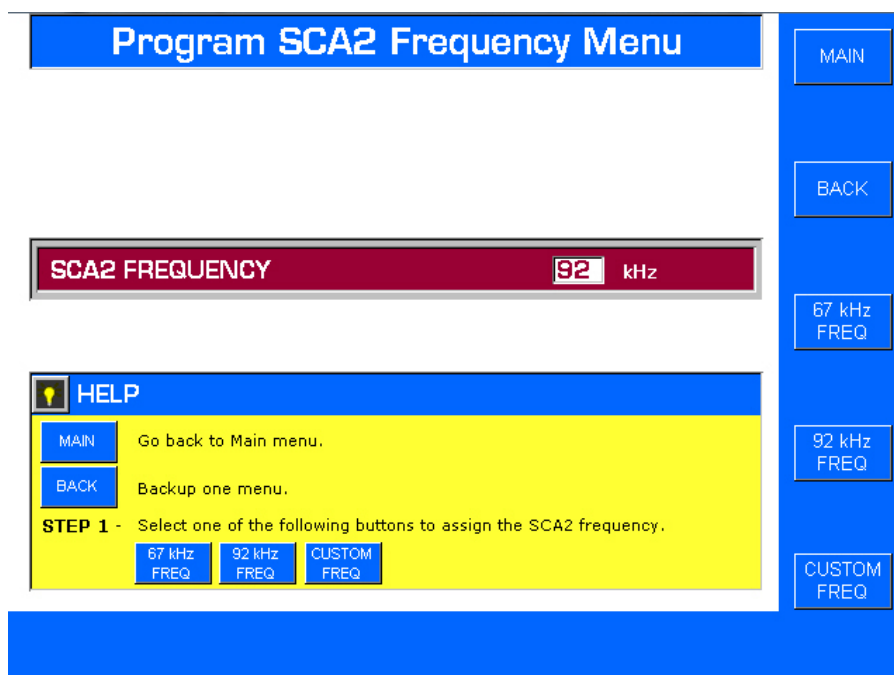

Figure 3-24. INTERNAL PROGRAM SCA2 FREQUENCY MENU
- A. Depress SCA2 FREQ. The Internal Program SCA2 Frequency Menu will appear (refer to Figure 3-24).